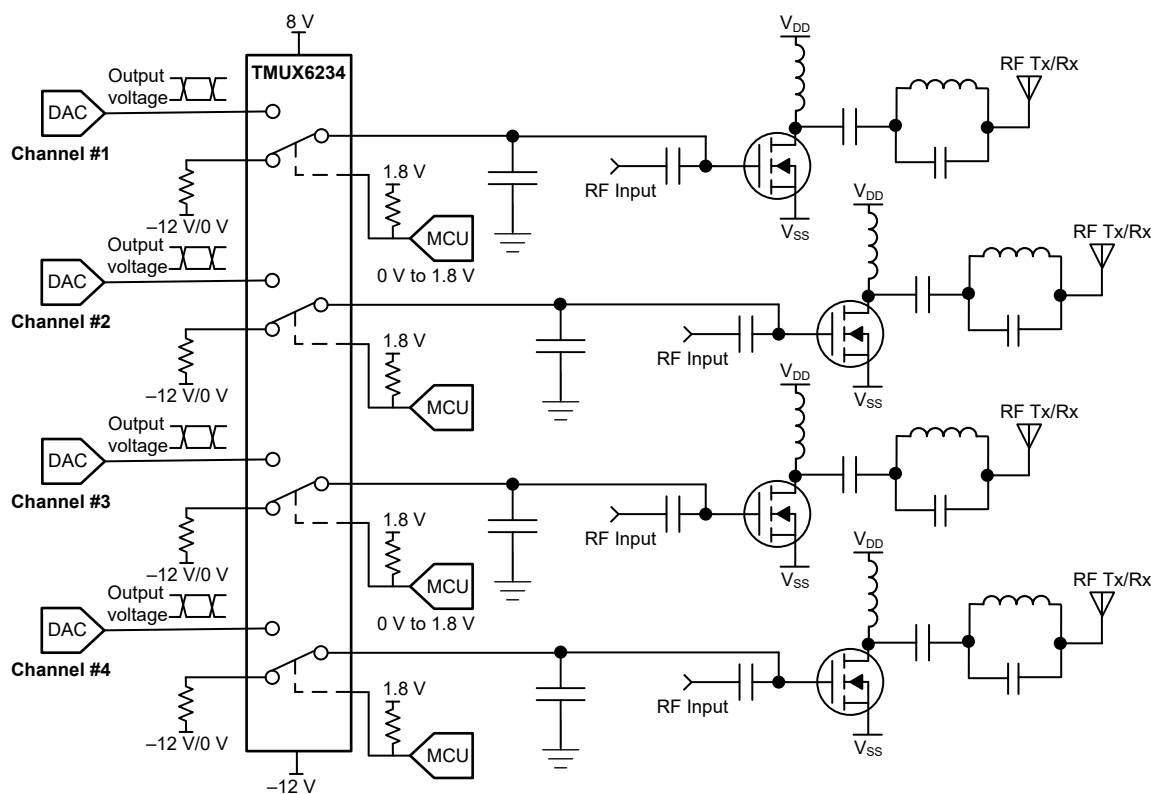

Figure 8-1. Power Amplifier Gate Driver
Figure 8-1 shows the TMUX6234 configured for control of a multi-channel power amplifier application.
The application shown in Figure 8-1 demonstrates how to toggle between the DAC output and a low signal voltage for control of a power amplifier. A device such as the TMUX6234 that supports multiple supply voltage combinations allows the system designer to use a single switch across platforms with different power amplifier topologies such as GaN or LDMOS implementations. Using a multi-channel switch like the TMUX6234 allows the system to improve density by implementing a smaller solution size. Multiple channels of the TMUX6234 can be utilized to switch additional stages of a single power amplifier channel. Or multiple channel switches can be used on different power amplifier stages in high channel count communications equipment such as a 32 transmit (TX), 32 receive (RX) active antenna system mMIMO (AAS). Each channel of the TMUX6234 has independent control signals allowing for overall system flexibility. The DAC output is utilized to bias the gate of the power amplifier and can be disconnected from the circuit using the select pins of the switch or the global enable pin. The TMUX6234 can support 1.8 V logic signals on the control input, allowing the device to interface with low logic controls of an FPGA or MCU. All inputs to the switch must fall within the recommended operating conditions of the TMUX6234 including signal range and continuous current. For this design with a positive supply of 8 V on V_{DD} , and negative supply of -12 V on V_{SS} , the signal range can be 8 V to -12 V. The maximum continuous current (I_{DC}) is captured in the *Recommended Operating Conditions* table for a range of supply voltage cases.